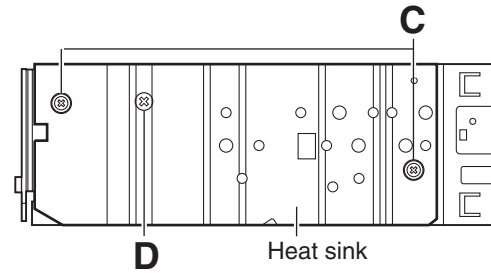

Fig.5
3.1.4 Removing the heat sink (See Fig.5)